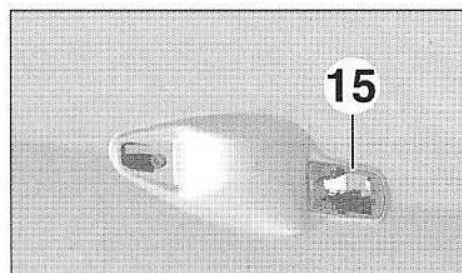

FIG.95
- Remplacer le joint (15) (Fig.95).